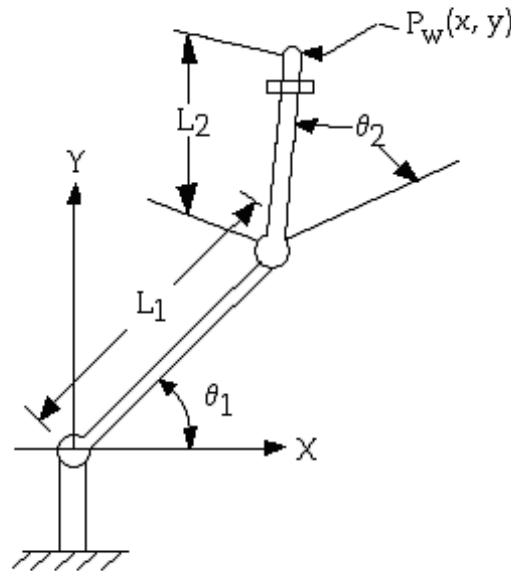

Figure 1
6. Consider the forward transformation of the two-joint manipulator shown in figure 1. Given that the length of joint 1, $L_1=12\text{in}$, the length of joint 2, $L_2=10\text{in}$., the angle $\theta_1=30^\circ$ and the angle $\theta_2=45^\circ$, compute the coordinate position (x and y coordinates) for the end-of-the-arm Pw. [16]